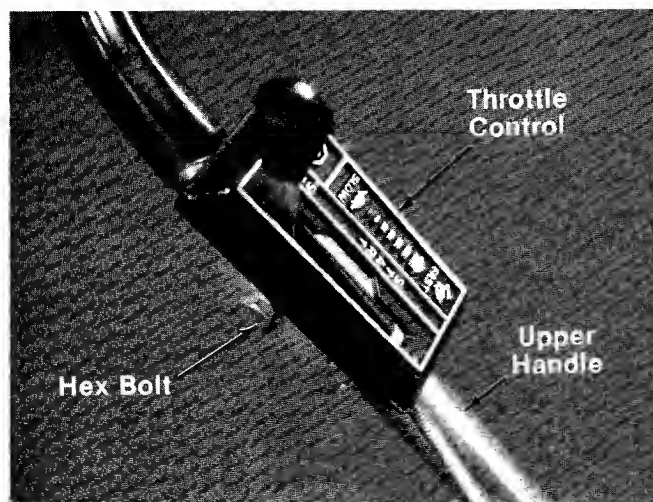

FIGURE 3.
4. Place the throttle control in position on **right** side of upper handle. Secure with hex bolt and lock nut. See figure 3.